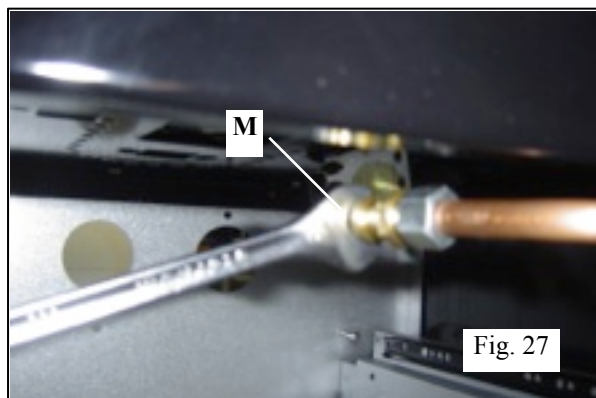

Fig. 27
-Loosen the set screw **L** (Fig.27).